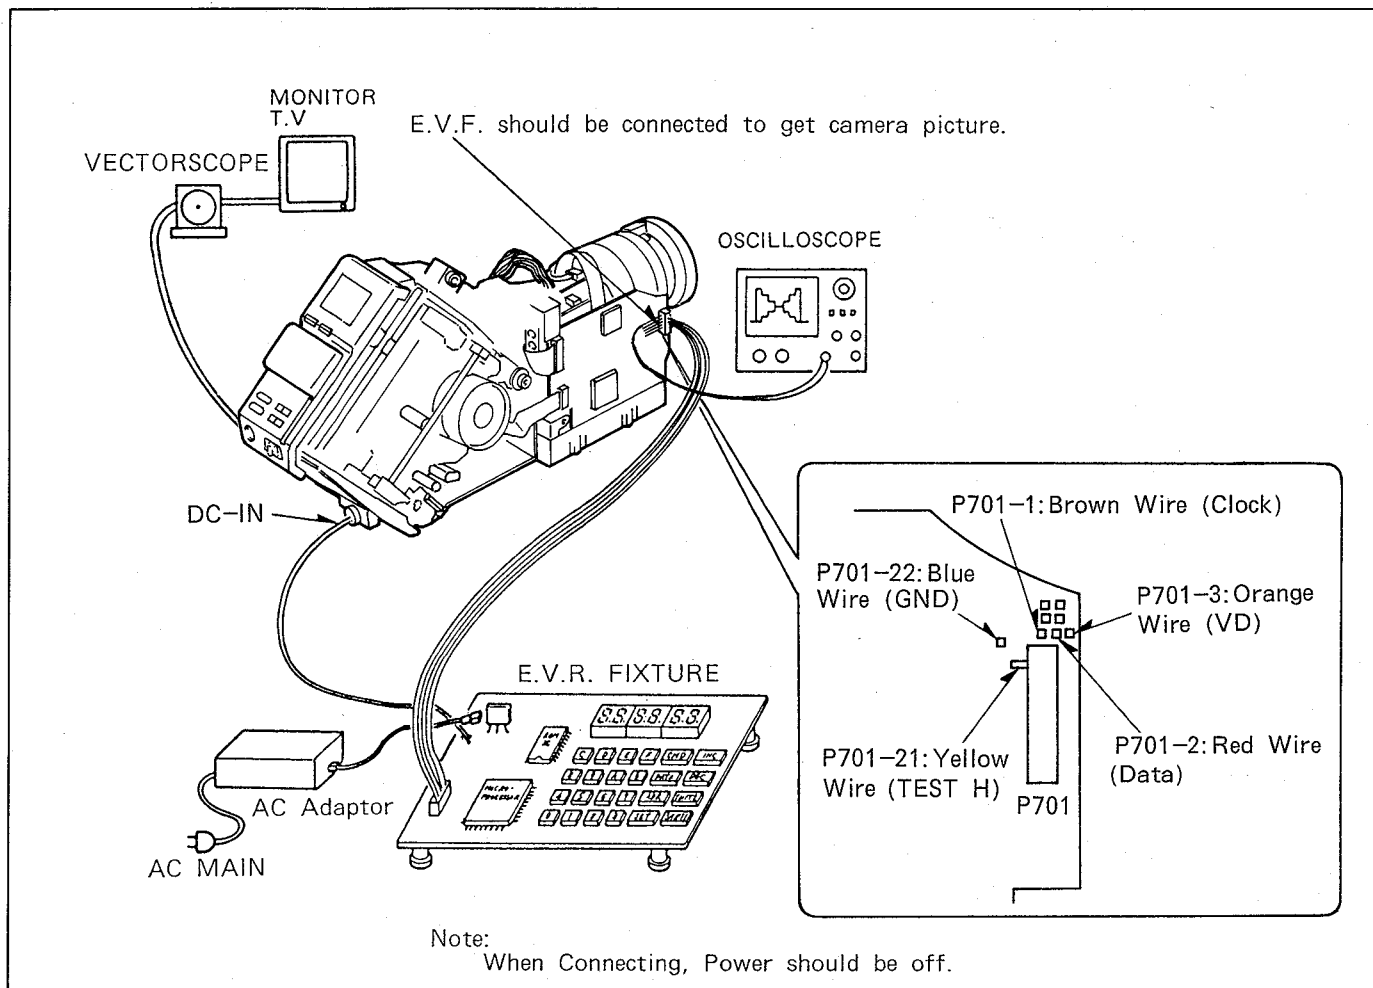

Fig. C6
- 1) Remove both side case (R) and (L) referring disassembly method.
- 2) Connect the E.V.R. FIXTURE and measuring equipments as shown in Fig. C6.
Connect the E.V.R. Fixture as shown in Fig. C6.